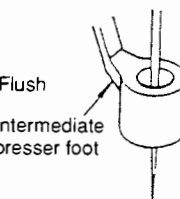

Fig. 5-19-5
- 7) The needle should enter the center of the hole in the intermediate presser foot. (Fig. 5-19-5)